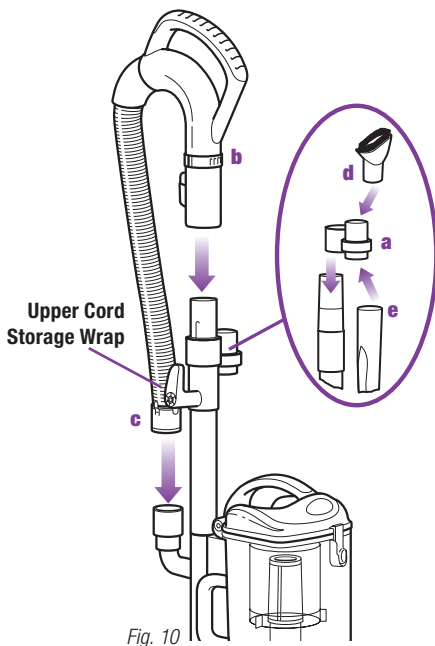

Fig. 10
- 4 Slide the accessory holder (a) positioned opposite the upper cord wrap, over the extension wand. Align the tab with the groove and push down. **(Fig. 10)**
- 5 Push the handle (b) onto the top of the extension wand until you hear it click into place. **(Fig. 10)**
- 6 Insert the end of the stretch hose (c) into the connector on the back of the *Lift-Away*® canister. **(Fig. 10)**
- 7 Store the dusting brush (d) and the crevice tool (e) on the mounts of the accessory holder. **(Fig. 10)**
- 5 Due to the huge suction power of this vacuum, it may become necessary at times to adjust the suction release (c) on the handle. (Fig. 10) If the vacuum seems difficult to push or pull or if it is lifting up area rugs, adjust the suction release by rotating the collar 90° counterclockwise to open the valve. Rotate the collar clockwise to close the valve when you need high suction and for vacuuming floors.